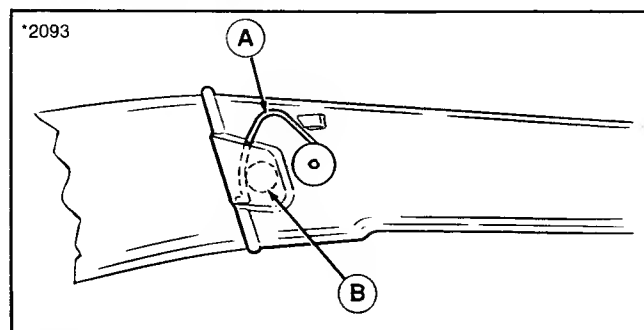

Figure 12.
15. Secure tube by moving wire form (A, figure 12) down over round cup (B) on adaptor surface.